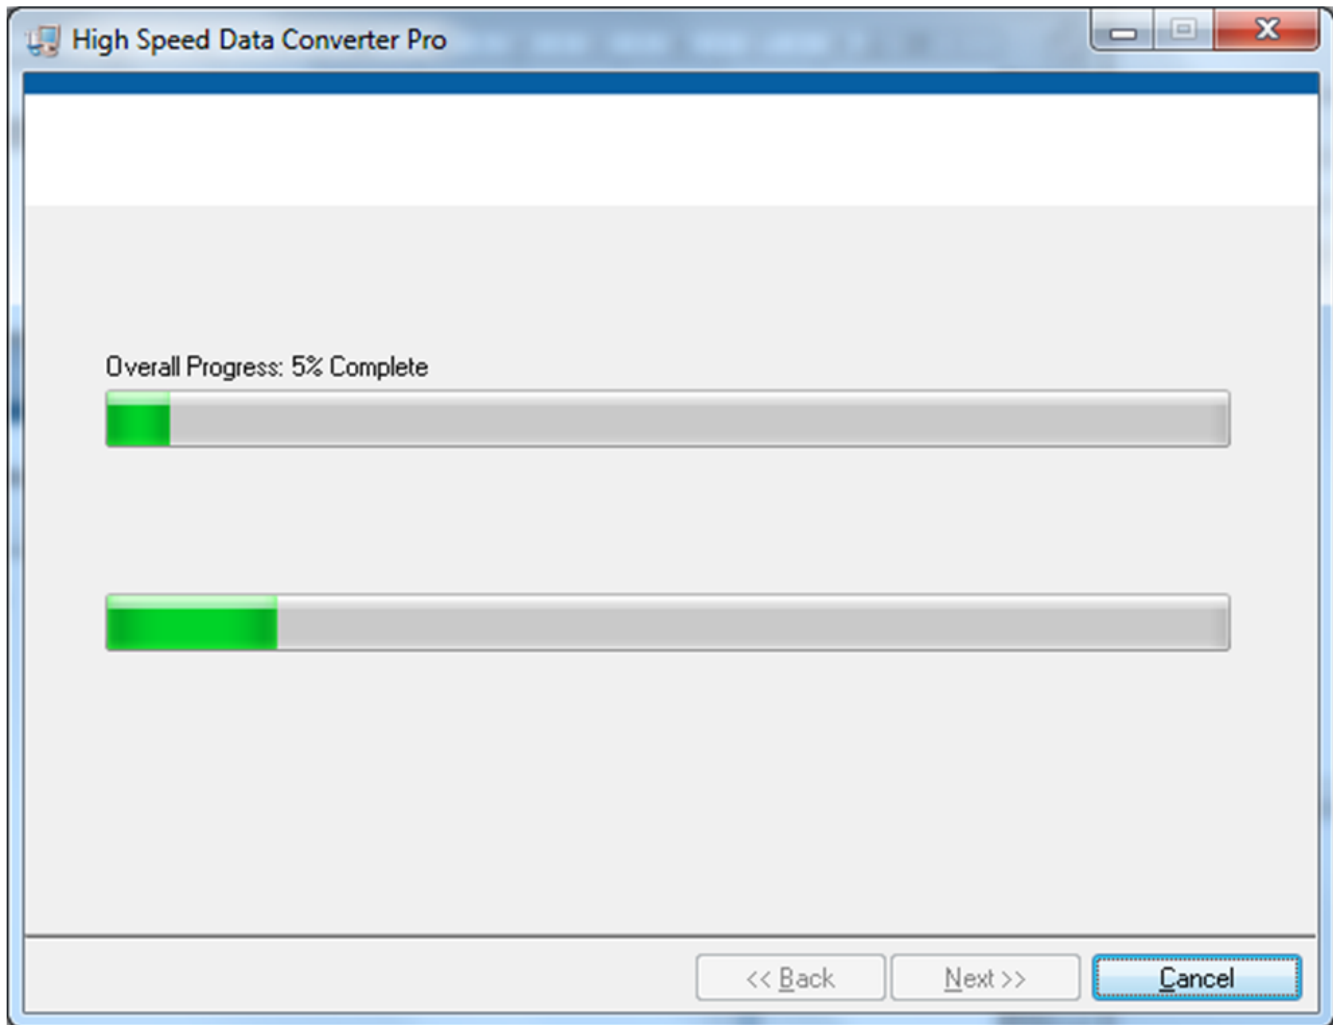

Figure 37. HSDCPro Install (Installation Progress)
- The window shown in Figure 37 should appear indicating that the installation is in progress.